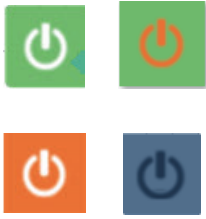

FIGURE 3-25
If the Radius Limitation is selected from the menu of WRL limitations, then the Radius Limitation Screen will be shown (Figure 3-25).
Using the Left Arrow and Right Arrow function on the display or the jog dial changes the object highlighted on the screen. As the arrow keys are pressed, the highlight will move between the objects, with the color orange typically meaning that the object is selected and can be affected by subsequent actions. In Figure 3-25, one can see that the
2. The Radius Limitation Screen (Figure 3-25) is to be shown on the display.
7. Use the Right Arrow function once to highlight the inner radius Accept Crane Position symbol (refer to Table 3-6:). Use an OK button to accept the current crane position (such as the 6.6 ft value shown in Figure 3-25) to be the Limitation Value. The Limitation Value should now be updated on the screen. Note that the boom is now at the limitation, so alarms are most likely sounding. The boom can now be moved away from the current radius to cease the alarm. Refer to Table 3-2: for how the alarm performs when the lockout option is not used. Refer to Figure 3-20 for the button to cancel an audible alarm (once boom motion has stopped).
7. Use the Right Arrow function once to highlight the outer radius Accept Crane Position symbol (refer to Table 3-6:). Use an OK button to accept the current crane position (such as the 49.2 ft value shown in Figure 3-25) to be the Limitation Value. The Limitation Value should now be updated on the screen. Note that the boom is now at the limitation, so alarms are most likely apparent. The boom can now be moved away from the current radius to cease the alarm. Refer to Table 3-2: for how the alarm performs when the lockout option is not used. Refer to Figure 3-20 for the button to cancel an audible alarm (once boom motion is no longer apparent).
1. The Radius Limitation Screen (Figure 3-25) is to be shown on the display.